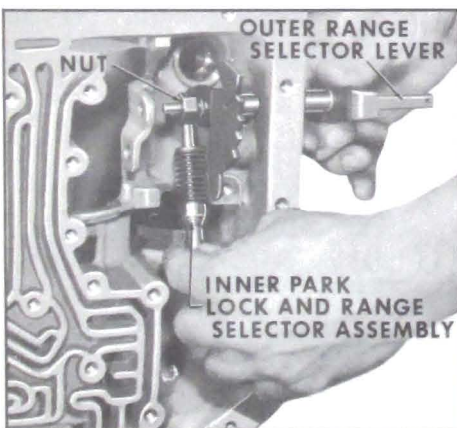

Figure 5-290
6. Install inner park lock and range selector assembly to outer range selector lever. Install nut on range selector lever. See Figure 5-290.